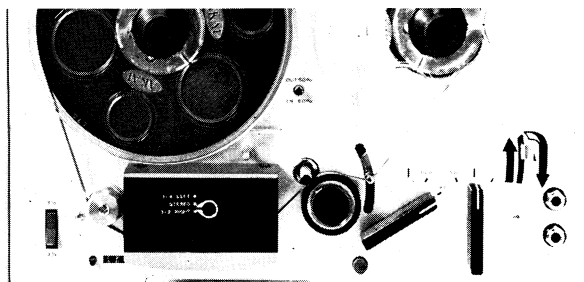

Fig. 15
To momentarily stop the tape during record/playback push the INSTANT STOP/PAUSE LEVER ⑤ to the "STOP" position as shown Fig. 15.